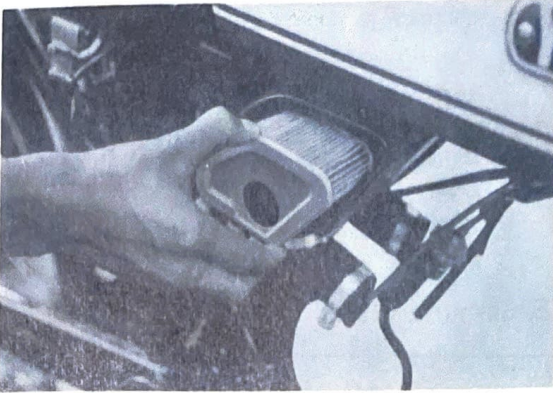

Fig. 4-20-2
- (3) The filter element is the divided type. (Fig. 4-20-2)